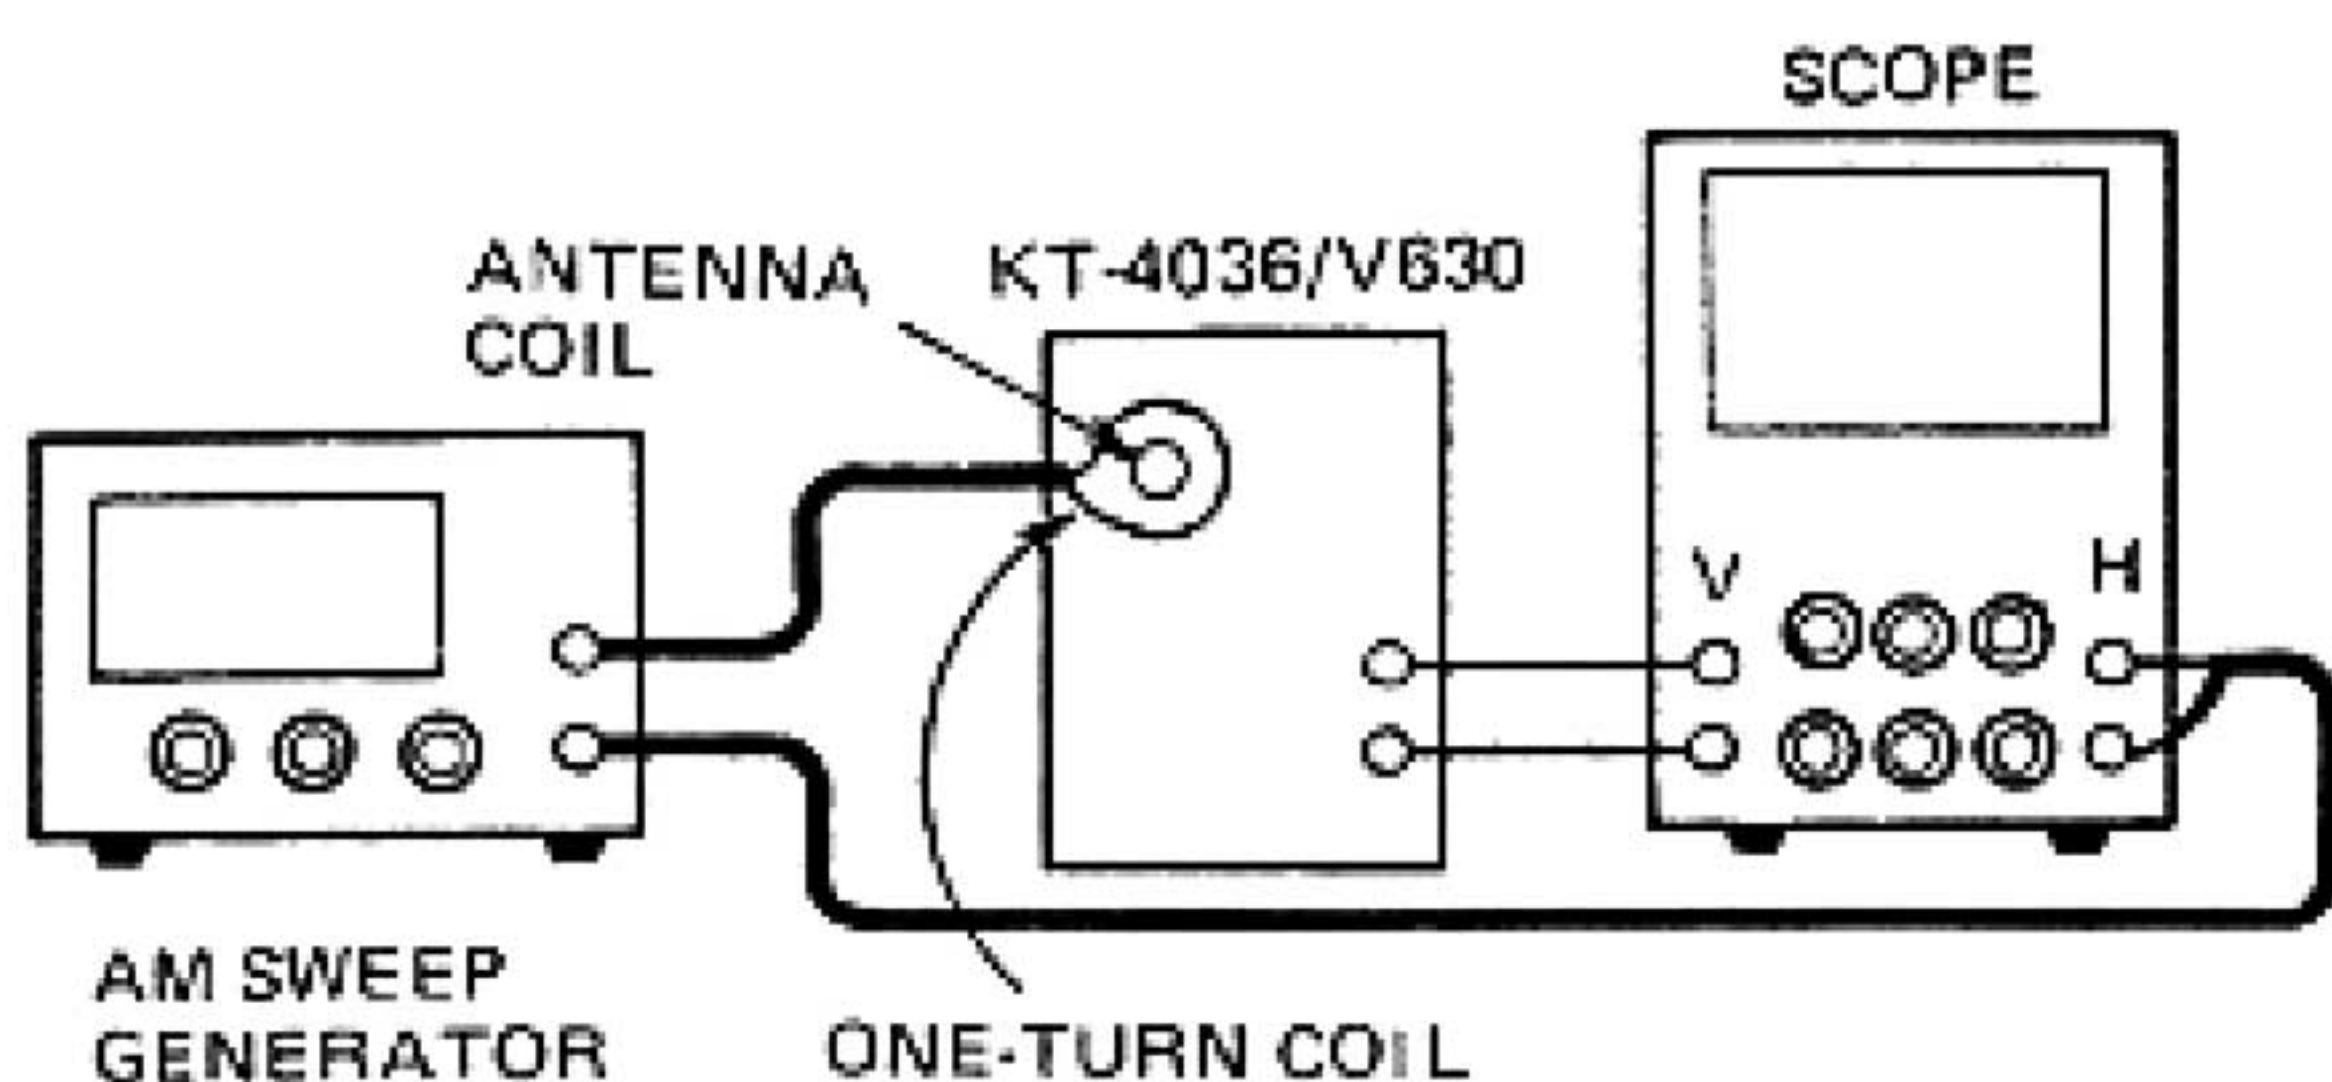

Figure 9
3. First, do the AM-IF Alignment (AM ALIGNMENT CHART), referring to Figure 9.